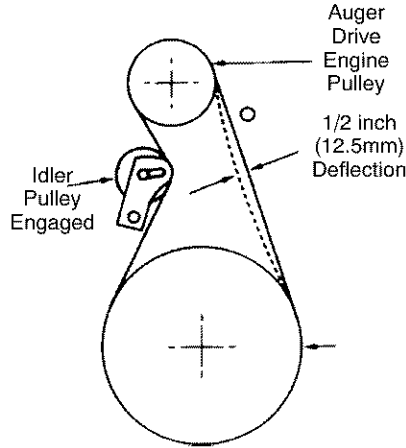

Figure 25
5. Have someone engage auger drive clutch. Check tension on belt (opposite idler pulley). Belt should deflect about 1/2 inch (12.5 mm) with moderate pressure (Figure 25). You may have to move idler pulley more than once to obtain the correct tension.